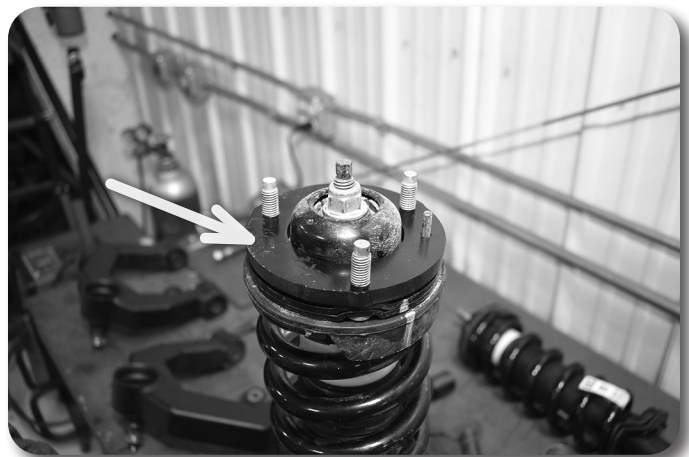

Figure 12
19. Install the upper strut spacer on the strut (Fig. 12).